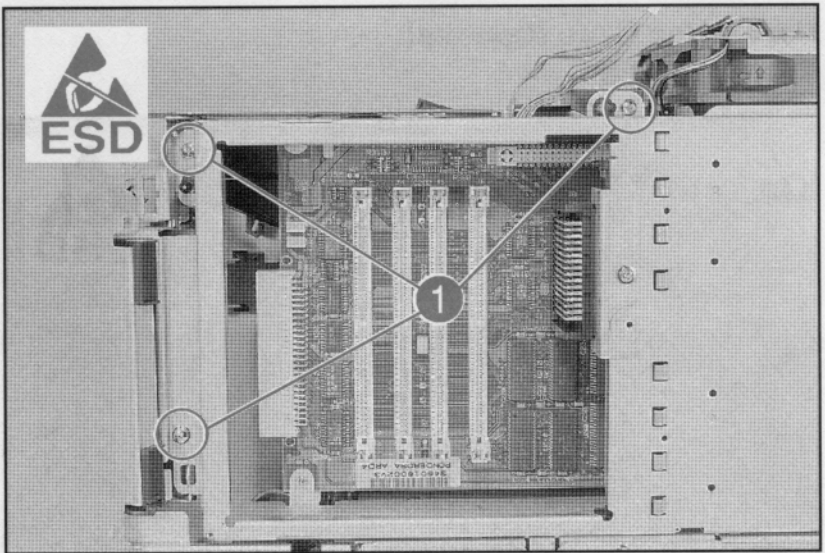
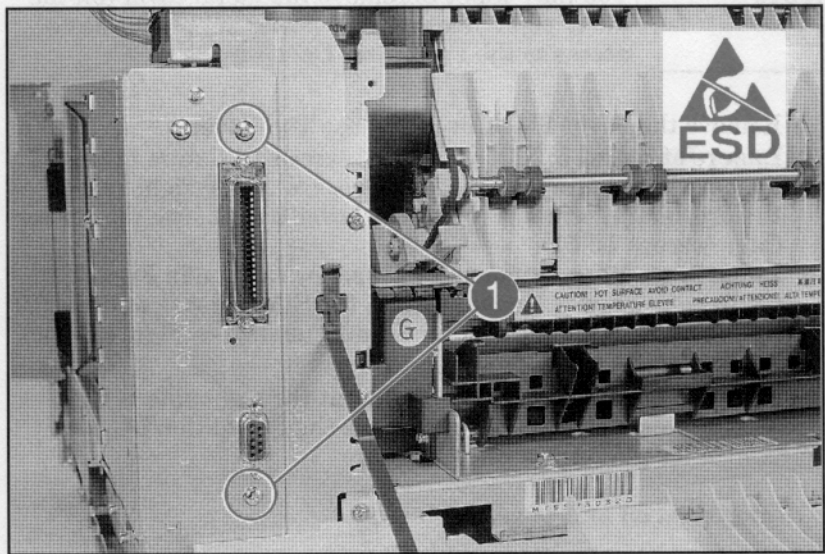

Figure 6-24b Formatter Cage Screws (Right Side View - LaserJet 4 Plus)
Figure 6-24c Formatter Cage Screws (Rear View - LaserJet 4 Plus)
- LaserJet 4 Plus:** Remove the (3) screws shown in Figure 6-24b (one screw is located behind the SIMM door), and the (2) screws on the right rear of the printer (shown in Figure 6-24c).